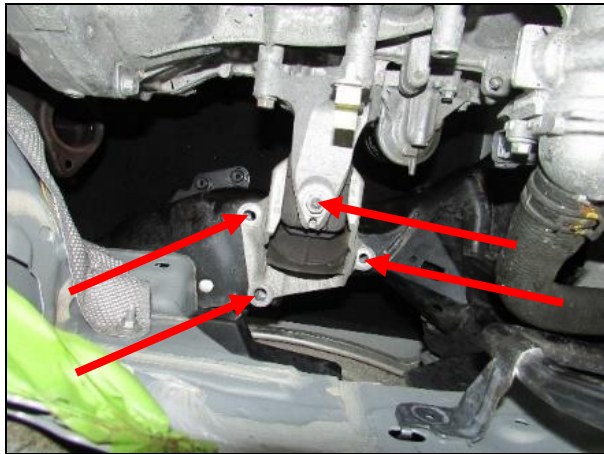

Figure 13
- Slide in the OEM motor mount and tighten (x3) 14mm head bolts and (x1) 14mm head nut. Remove the screw jack out from under the car (**Figure 13**).